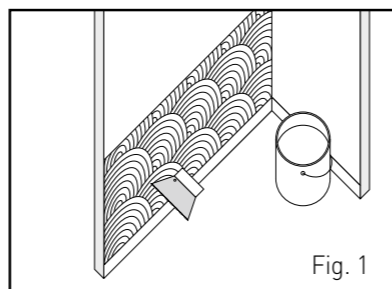

Fig. 1
- Measure each section of wall and then cut the DECOCHOC panels to the required heights and lengths (see Fig. 1).
- Use numbers to mark the location of the panels on the wall sections (see Fig. 1).
- Spread the glue over the entire wall surface that was marked out earlier. Applying it to the wall instead of the panel avoids getting dust on the adhesive and reduces the open time (see Fig. 1).